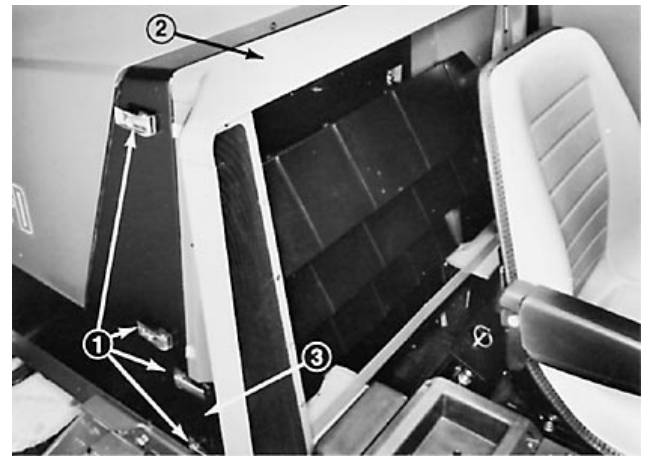

Figure 41
- B. Unlatch latch handles on both sides and remove radiator cowl and grille support (Fig. 41).